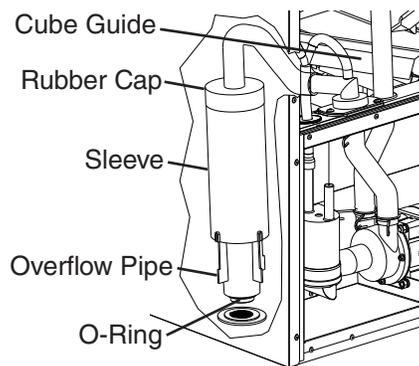

Fig. 21
2c)(2) Remove the rubber cap and sleeve covering the overflow pipe. See Fig. 21.